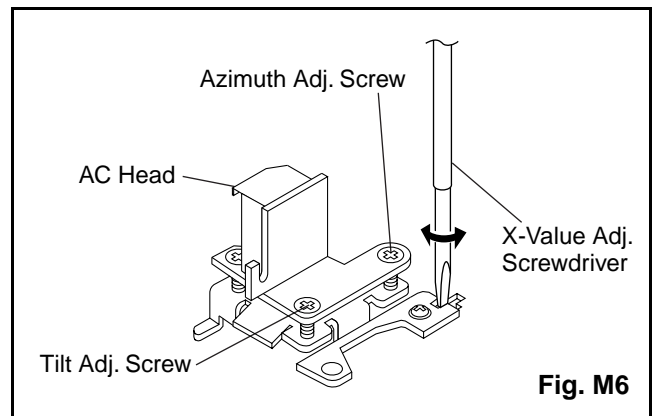

Fig. M6
4. If creasing or snaking is apparent, adjust the Tilt Adj. Screw of the AC Head. (Fig. M6)
4. Use the X-Value Adj. Screwdriver so that the PB FM signal at TP301 (C-PB) is maximum. (Fig. M6)
3. Adjust Azimuth Adj. Screw so that the output level on the AC Voltmeter or the waveform on the oscilloscope is at maximum. (Fig. M6)